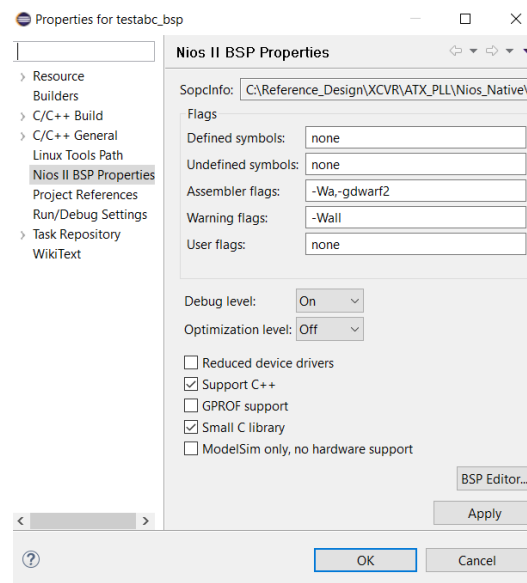

Figure 5. Nios II BSP Properties
8. Enable the support of small C library and then click Apply. The Nios II BSP Properties should look like Figure 5.